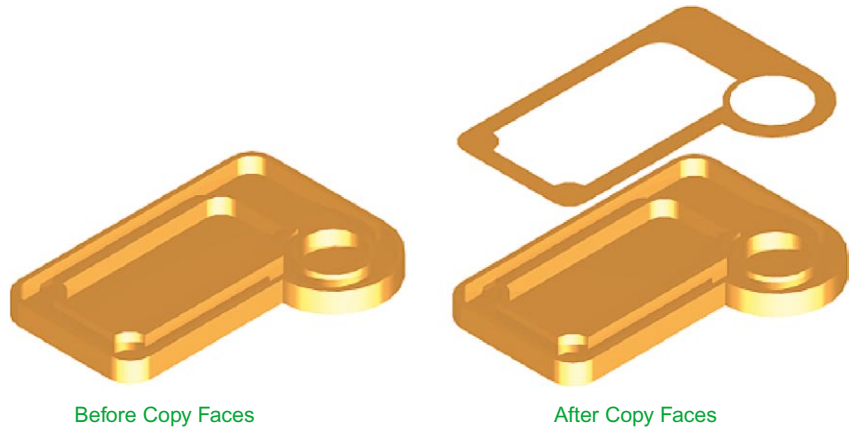

Fig. 18.10 Sixth example – Copy faces tool
## Sixth example – Copy faces tool (Fig. 18.10)
3. Add lights and a material to the 3D model and its copied face and render (Fig. 18.10).